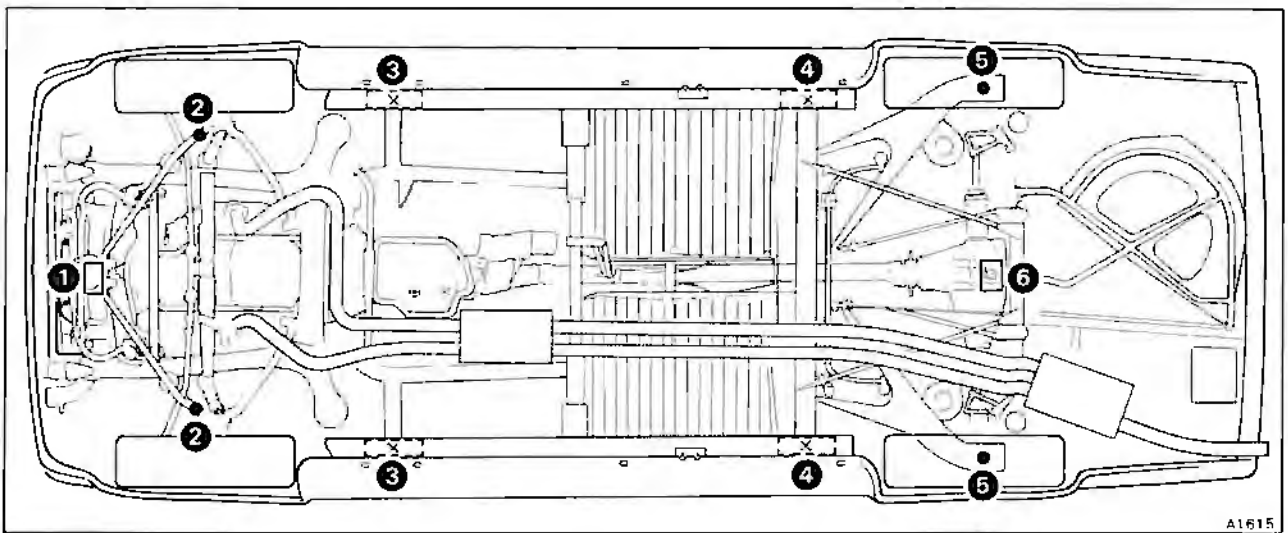

Fig. A8-1 Car jacking positions and support locations
To jack up the front of the car, position a trolley jack under the front pivot mounting for the lower triangle levers on the sub-frame (see fig. A8-1, item 1).
Alternatively, jack up the car using one of the two front jacking points situated on the car underbody (see fig. A8-1, item 3), utilizing the car jack.
To jack up the rear of the car, position a trolley jack under the centre of the final drive casing (see fig. A8-1, item 6), **not on the final drive crossmember**. Ensure a piece of hardwood is placed between the jack head and the final drive casing.